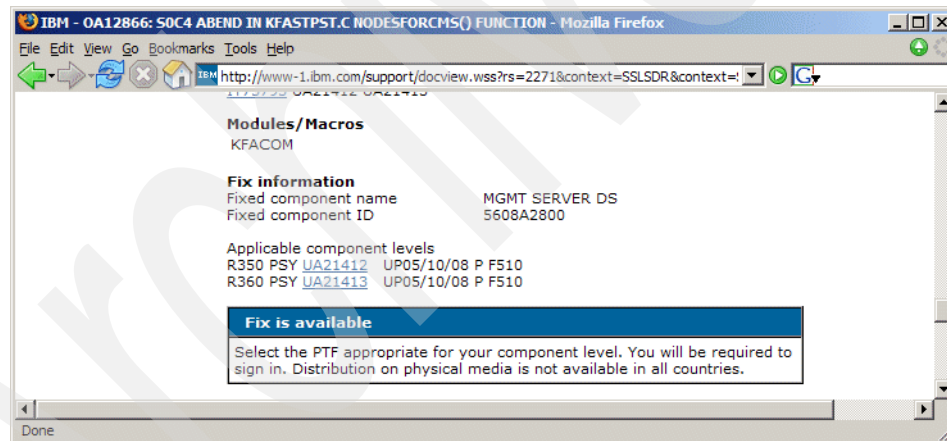

Figure 4-1 Link to the PTF
5. Get the appropriate Problem Temporary Fix (PTF) under the Fix information as shown in Figure 4-1.